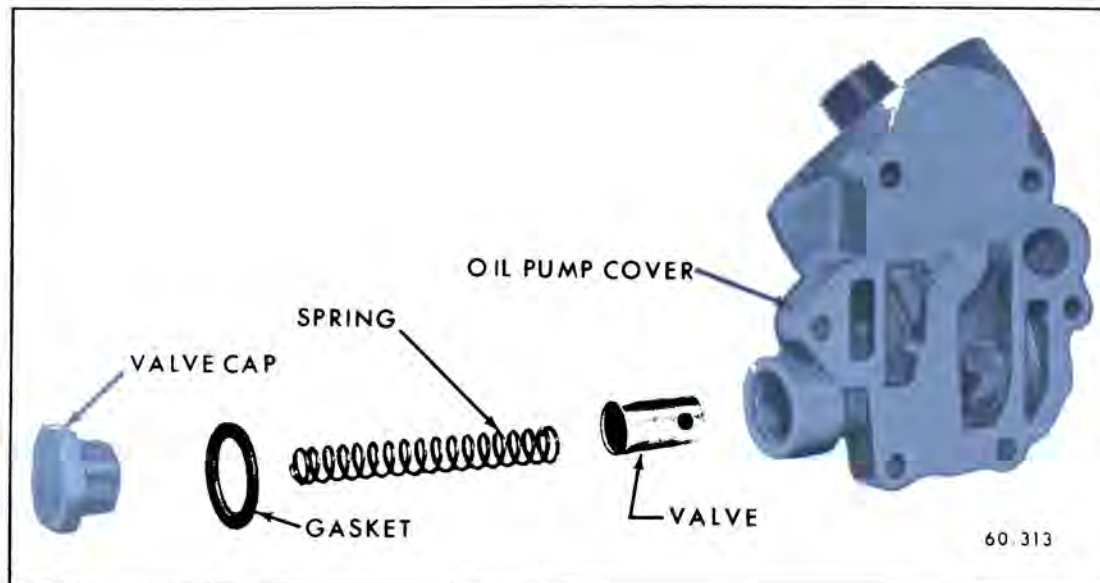

Figure 60-242—Oil Pump Cover and By-Pass Valve
valve cap, spring and valve. See Figure 60-242. Oil filter by-pass valve and spring are staked in place and should not be removed.
1. Lubricate and install pressure relief valve and spring in bore of oil pump cover. See Figure 60-242. Install cap and gasket. Torque cap to 35 lb. ft. with a reliable torque wrench. Do not over-tighten.